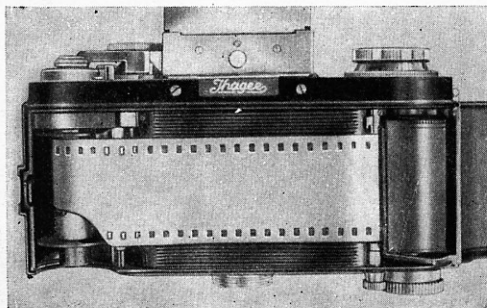

Fig. 33
The film strip must run perfectly straight and flat over the film track and the film transport sprockets (31) to the receiving spool (29) (Fig. 33). Take care that the sprocket teeth engage on both sides of the film perforation. Close the camera back (40) (see Section A). When closing the camera, make sure that receiving spool and film remain in their proper position.